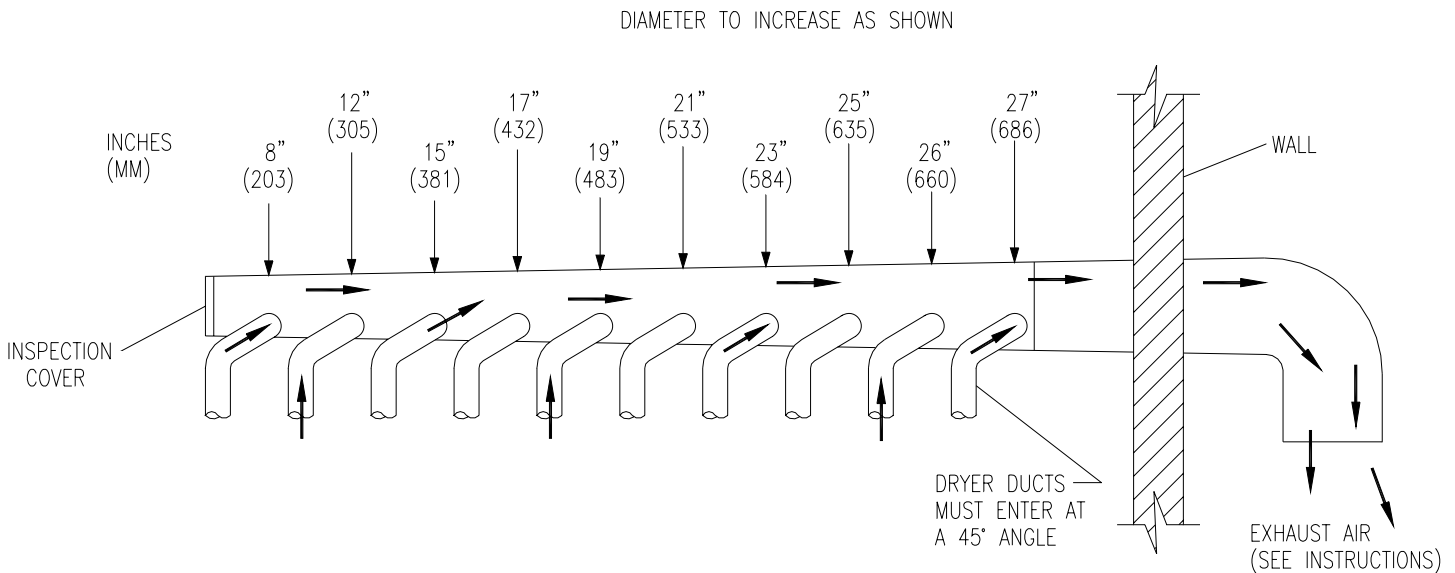

FIGURE 3- Dryer Exhausting Using A Main Discharge Duct.
6. **EXHAUST INSTALLATION.** (Refer to Figure 3 at the end of section 6.) Exhausting of the dryer(s) should be planned and constructed so that no air restrictions occur. Any restriction due to pipe size or type of installation can cause slow drying time, excessive heat, and lint in the room.
Installation of several dryers, where a main discharge duct is necessary, will need the following considerations for installation (see Figure 3). Individual 6 in. (152 mm) exhaust ducts from the each dryer should enter main discharge duct at a 45 degree angle in the direction of discharge air flow.
NOTE: Never install the individual ducts at a right angle into the main discharge duct. The individual ducts from the dryers can enter at the sides or bottom of the main discharge duct. Figure 3 indicates the various round main duct diameters to use with the individual dryer ducts. The main duct can be rectangular or round, provided adequate air flow is maintained. The total exhausting (main discharge duct plus duct outlet from the dryer) should not exceed the equivalent of 14 ft. (4.5 m) and two elbows. The diameter of the main discharge duct at the last dryer must be maintained to exhaust end.